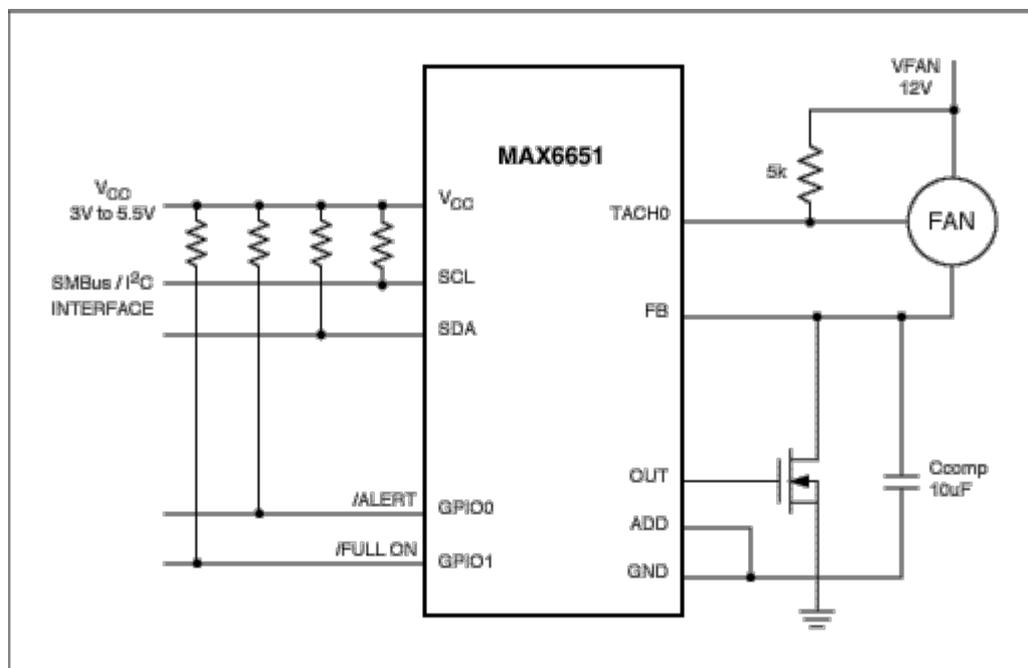
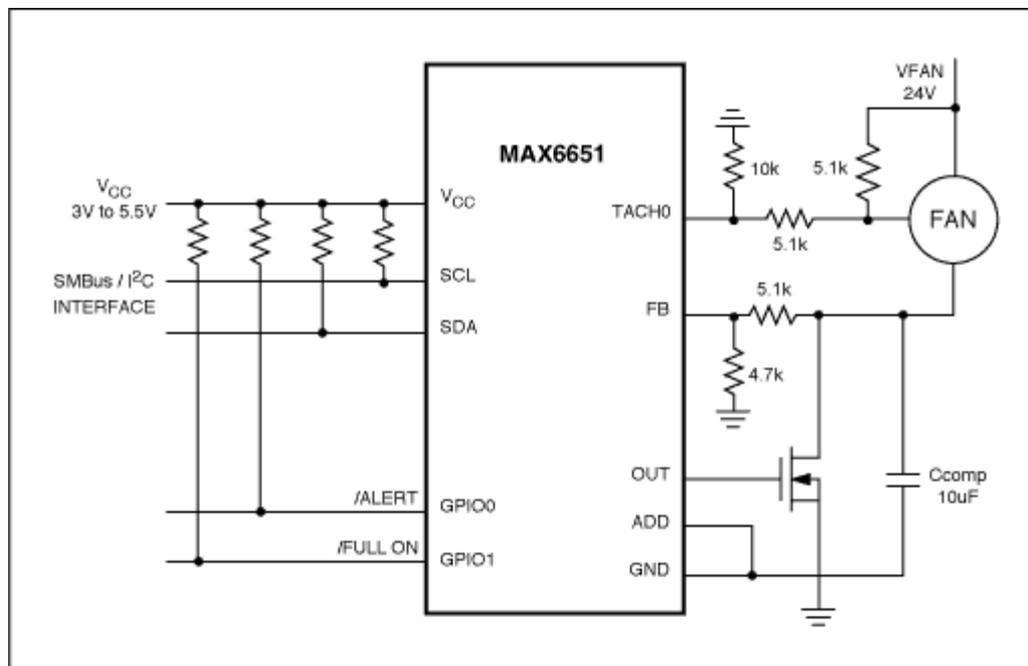
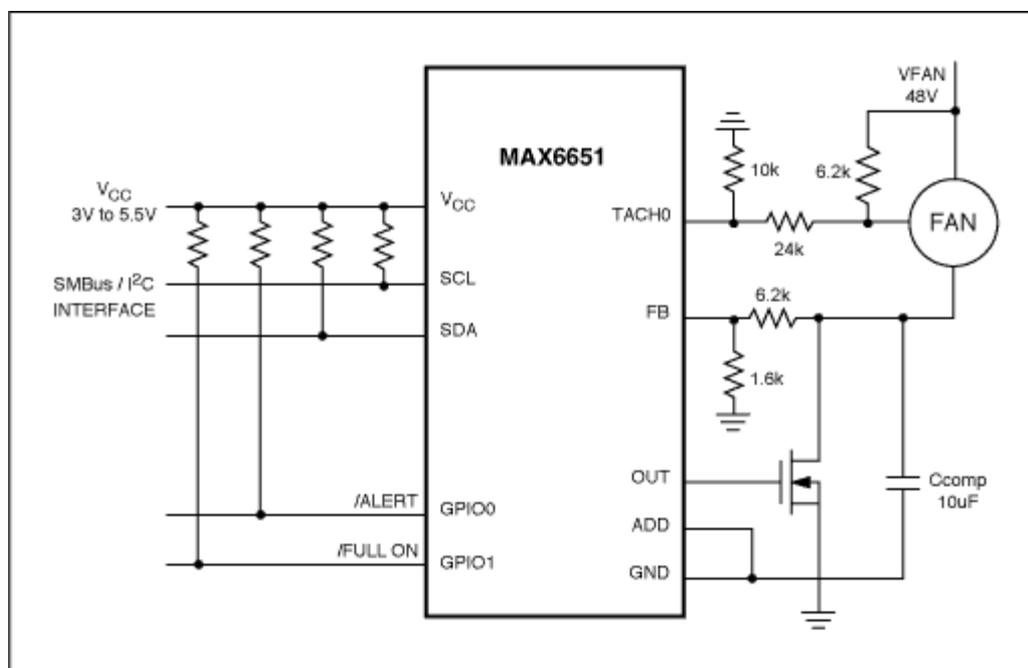

Figure 1. Normal 12V operating circuit for the MAX6651.
Figure 2. Driving a 24V fan with the MAX6651.
Figure 3. Driving a 48V fan with the MAX6651.
**Figure 1** shows a typical MAX6651 circuit with a 12V BLDC fan. (The MAX6651 is shown in the schematics throughout this application note. The same pin names apply for the MAX6650.) OUT drives the gate of the external N-channel MOSFET, and FB is the input that closes the feedback loop at the MOSFET's drain. This voltage will vary from 0V to VFAN (12V in this example). The fan's tachometer output is usually open-drain, and is pulled up to VFAN through an external resistor. TACH0 accepts the tachometer signal and adjusts its logic level according to the voltage on FB; the logic level therefore follows the voltage at the fan's tachometer output as it changes with the fan's drive level. The FB and TACH inputs can accept voltages up to 13.2V, so VFAN can be as large as 12V nominal.
To control a 24V fan with the MAX6650, the circuit in **Figure 2** may be used. The only change from the circuit in Figure 1 is the addition of two pairs of resistors to attenuate the voltages at the TACH0 and FB inputs to 12V or less. Similarly, the circuit in **Figure 3** provides further attenuation to reduce the input voltage from 48V to 12V or less.